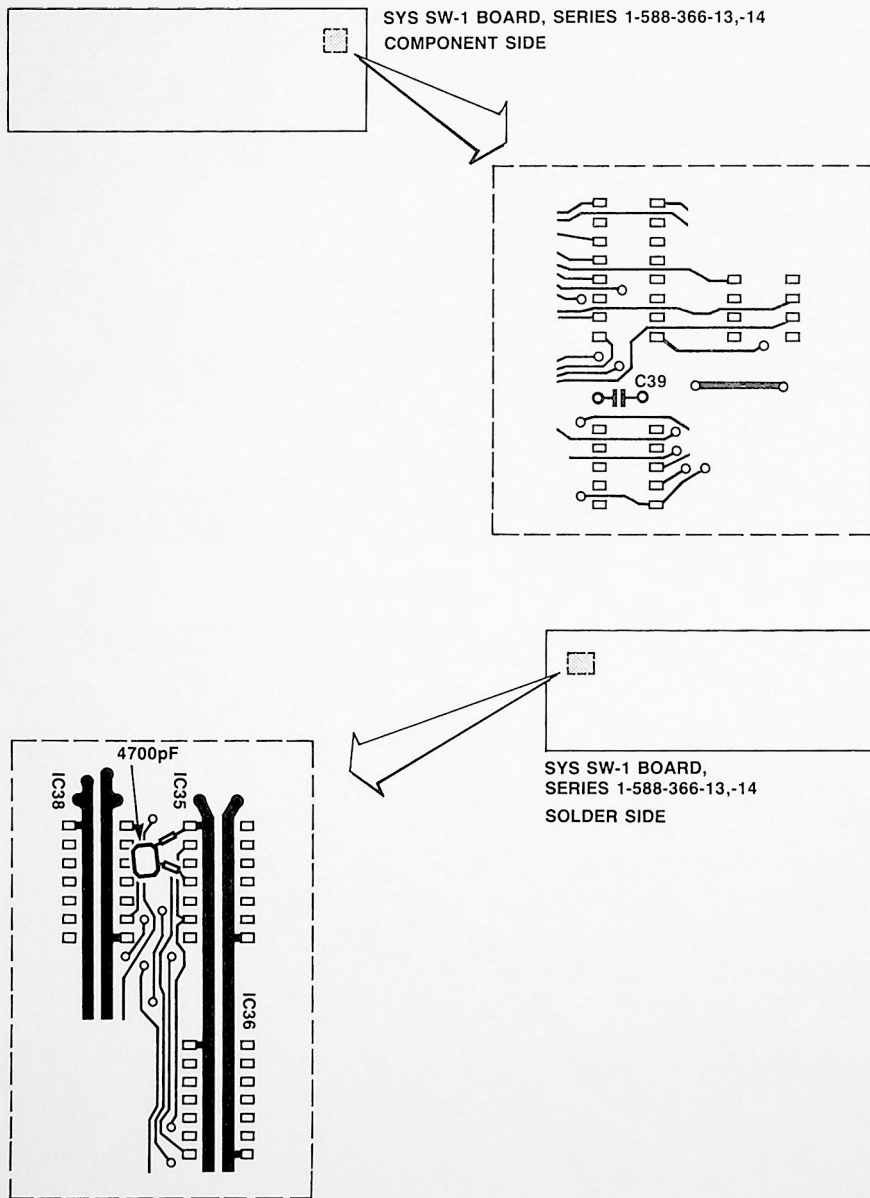

Figure 1
1. Remove C39 from its present position. (See Figure 1.)